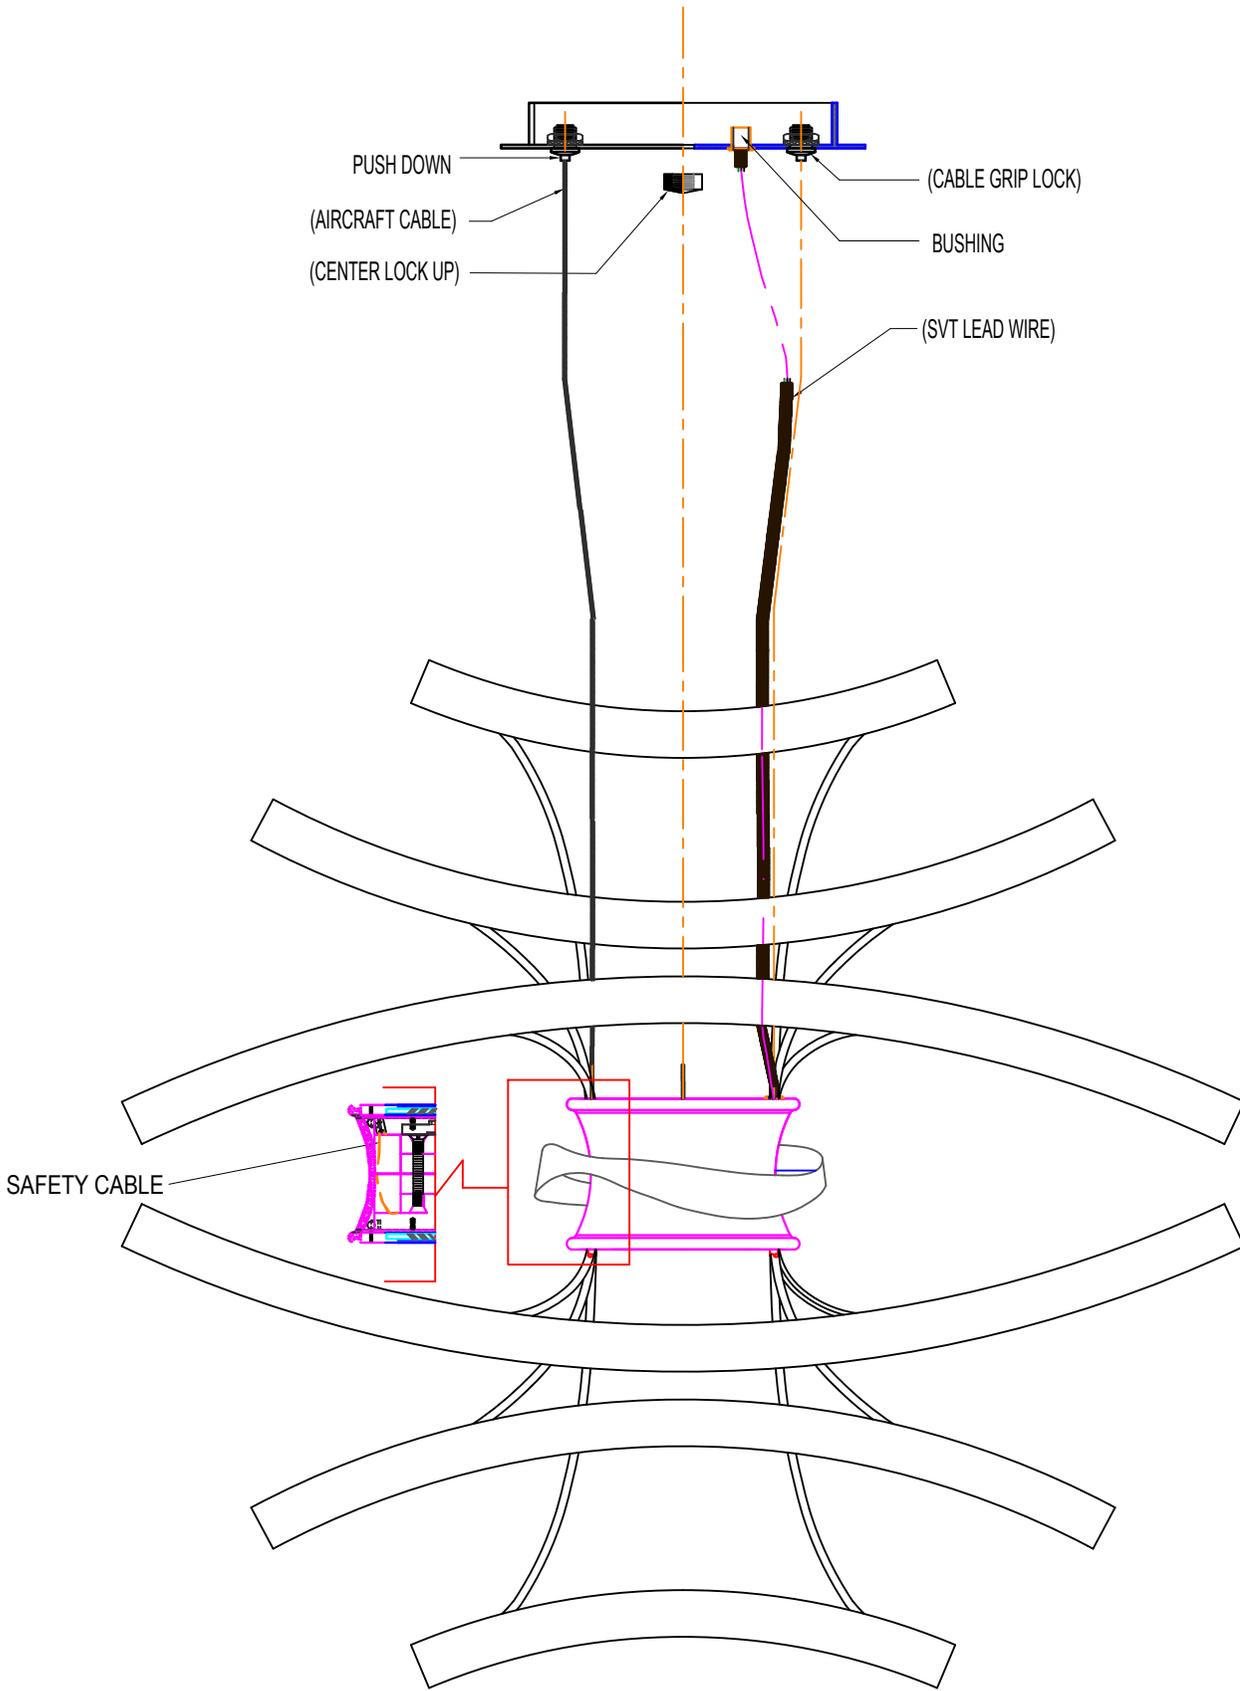

FIGURE- 4
3. To change the drop height based on your desired height, push the tab down on the grip post either pull or push the aircraft cable. Repeat this to all aircraft cable until the fixture is level and with the desired height. (Refer to Figure-4)
4. Adjust the SVT wire base on the desired height. Pull/push the SVT wire to the bushing and leave 8" lead and ground wire above the canopy and cut the excess wire. (Refer to Figure-4)